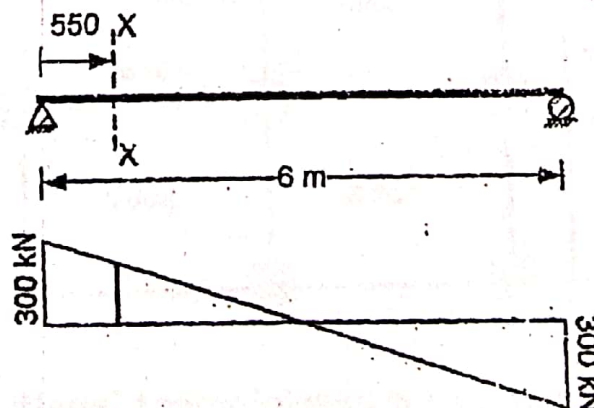

Fig. 2(a)
- 2(a) The shear force diagram for a simply supported reinforced concrete beam of cross section 300×600mm is as shown in Fig. 2(a). The beam is reinforced with 4-20 mm bars in tension and effective cover of 50 mm. Design shear reinforcement for section X-X as shown in figure. Consider concrete grade of M20 and Fe415 steel. 6